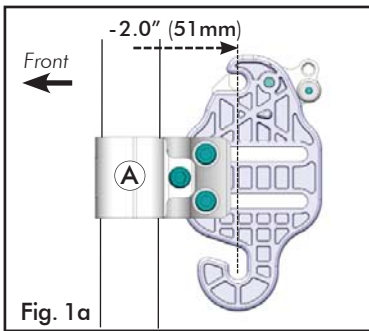

Fig. 1a
- Standard Orientation (Fig. 1a/2a) = maximized seat depth